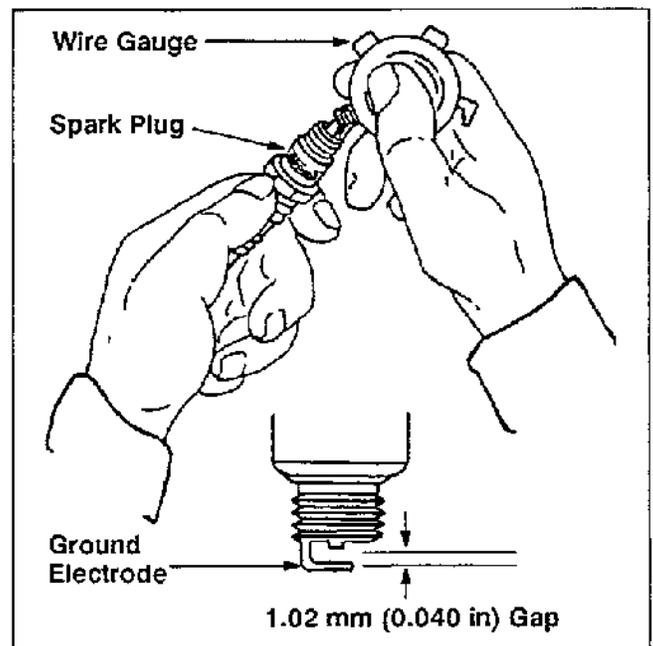

Figure 8-1. Servicing Spark Plug.
3. Check the gap using a wire feeler gauge. Adjust the gap to **1.02 mm (0.040 in)** by carefully bending the ground electrode. See Figure 8-1.